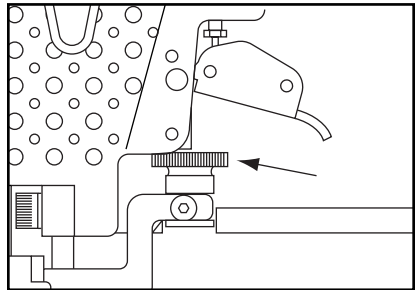

Figure 3. Depth adjustment wheel.
1. Rotate the depth adjustment wheel (shown in **Figure 3**) clockwise to increase the nail driving depth.